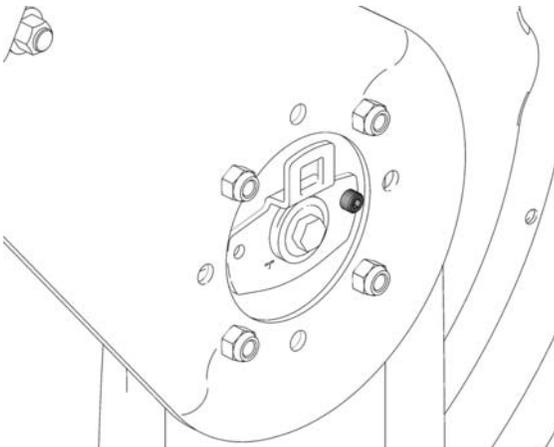

FIG. 16
6. Remove ratchet (C) (FIG. 16).